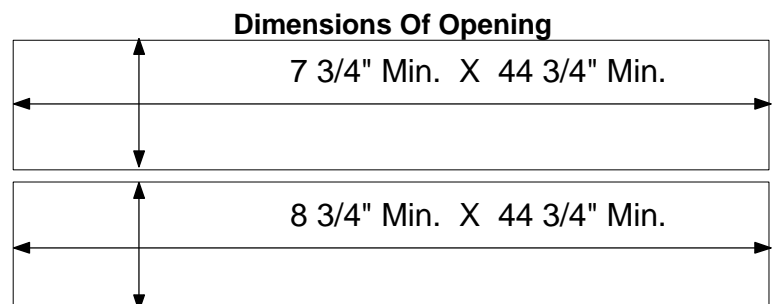

Figure 4
1. Cut rough opening in wall based off size of light trap installed. (See **Figure 4**).